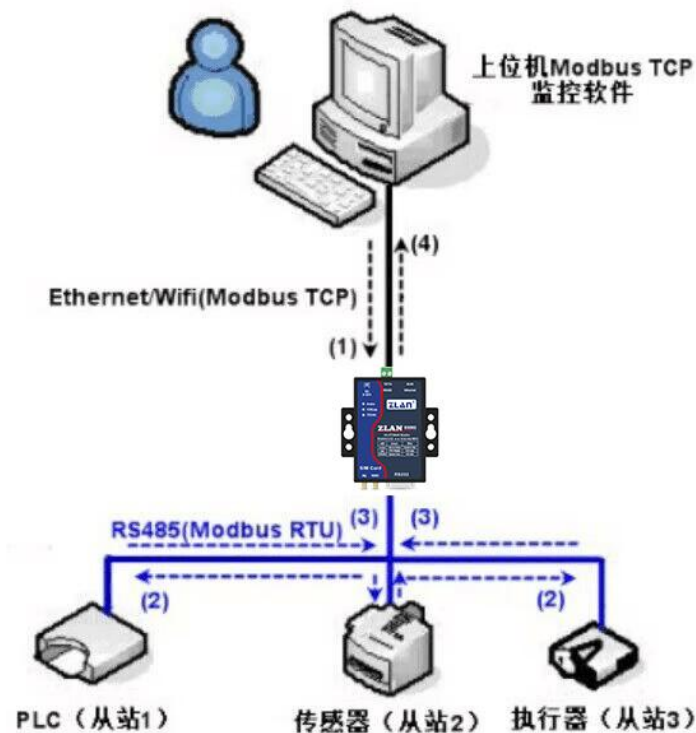

Figure 44 Storage Modbus gateway working mode
As shown in Figure 44, the normal Modbus TCP data flow direction is (1) (2) (3) (4). That is, the Modbus TCP command is first converted into the corresponding command of Modbus RTU, and then the device responds to the Modbus RTU command to the Modbus gateway, and then the Modbus gateway is converted into Modbus TCP and sent to the monitoring host computer.